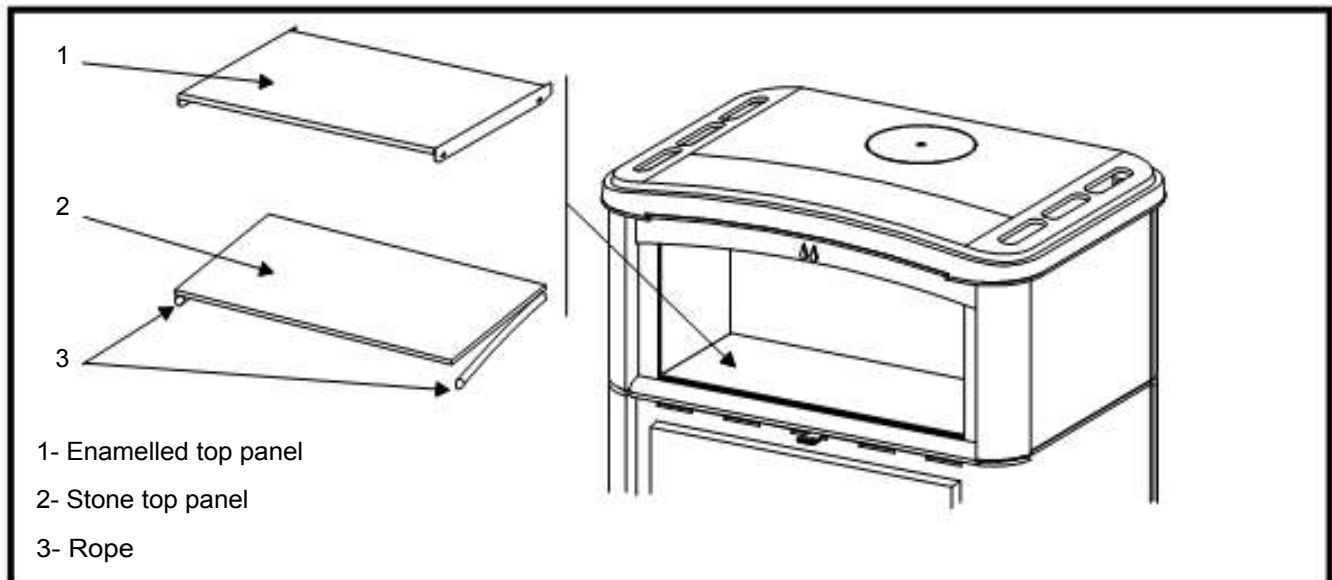

Figure 9 - Mounting the top panel
- You must glue, underneath the stone, the ceramic rope which is supplied. This is to allow the primary air control mechanism to work properly (fig. 9).
- The top neckline must be towards the back (fig. 9).